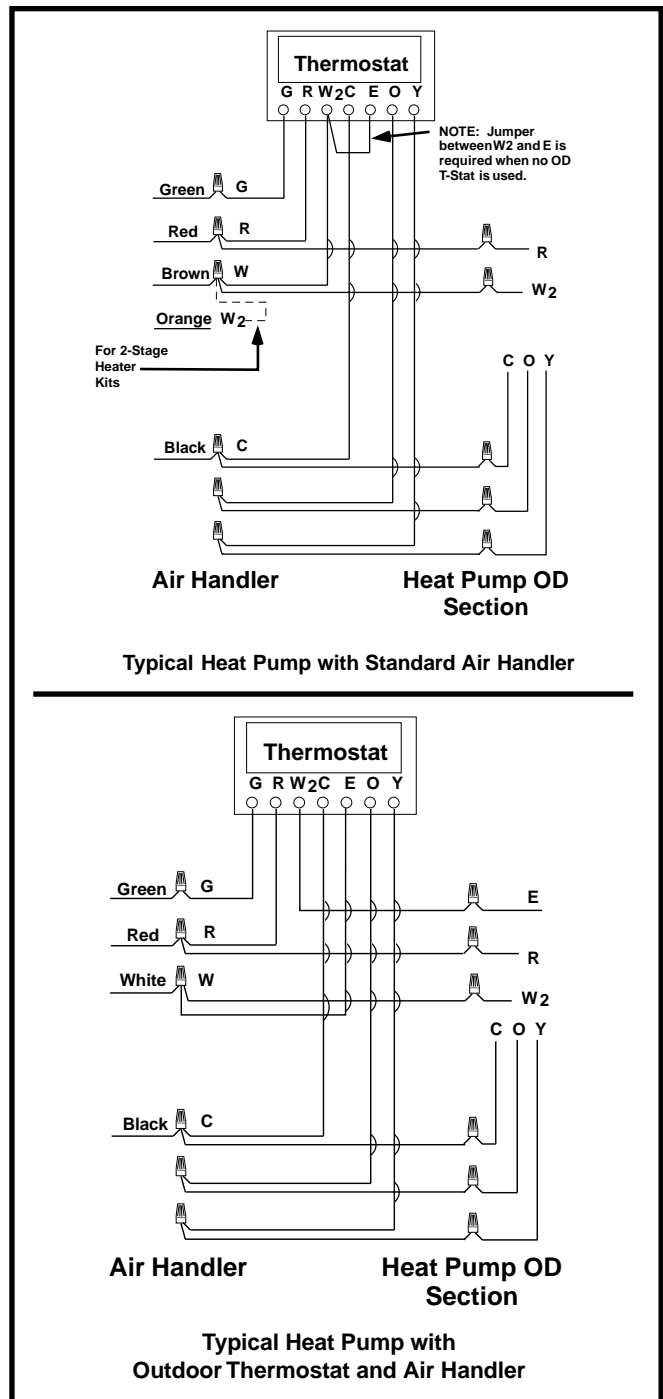

Figure 3. Typical Thermostat Connections
- Thermostat connections should be made in accordance with the instructions supplied with the thermostat and the indoor equipment. A typical installation with a heat pump thermostat and air handler is shown in Figure 3.